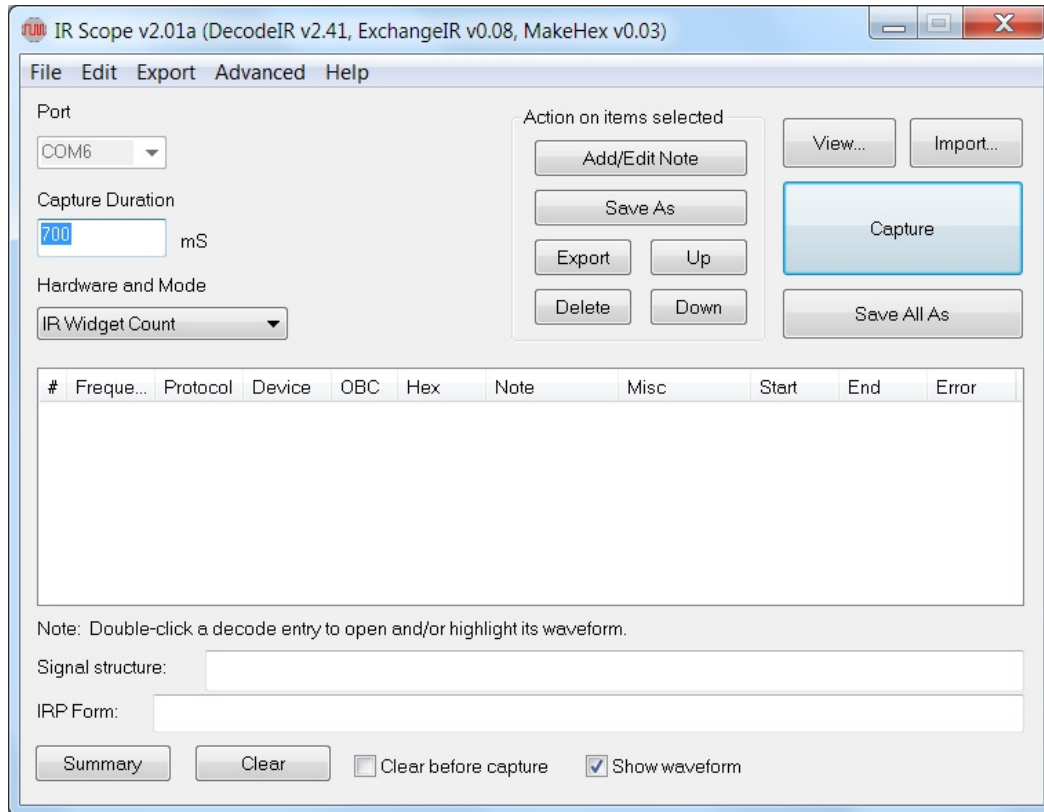

Figure 2. Default Main Window
4. THE MAIN WINDOW After plugging in your **Widget** and opening **IRScope** the main operating window will look something like Figure 2 below. It contains all of the **Widget** controls, and will remain on your screen as long as your recording session is active. The large blank area in the center is the decode area. It will list all the signals you capture, and also those you retrieve from previously saved records.
Port This must be set to the virtual COM port your **Widget** is connected to. There are two ways to set it, manual and automatic. If you drop down the **Advanced** tab menu and check the **AutoLocate Widget** option, then each time you open **IRScope** the computer will search through all the ports to find the **Widget**, and automatically select that port. It indicates this by greying out the **Port** box, as shown in Figure 2, and you can't change it. If you un-check the **AutoLocate Widget** option, then each time you open **IRScope** the **Port** box will be blue, letting you know that the port number selected may or may not be correct. If you get a port error message when you try to make a capture, you can drop down the list of COM ports and select the one that **Device Manager** says you are connected to.